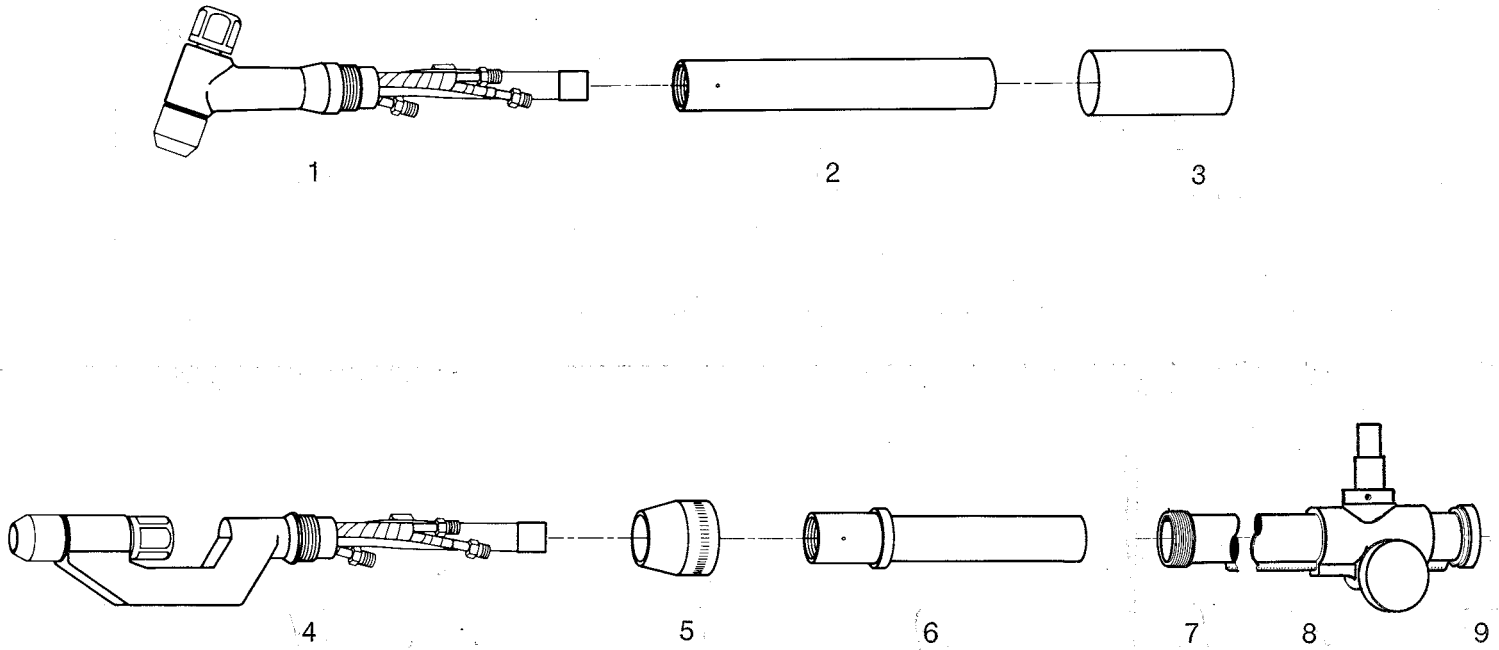

Figure 5-1 PWH/M-4A Welding Torch
- Fig. 5-1 4A Series Welding Torch